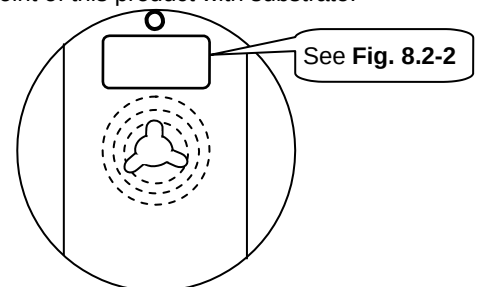

Fig. 8.2-1
- Marking label information on reels includes (see Fig.8.2-1~2):